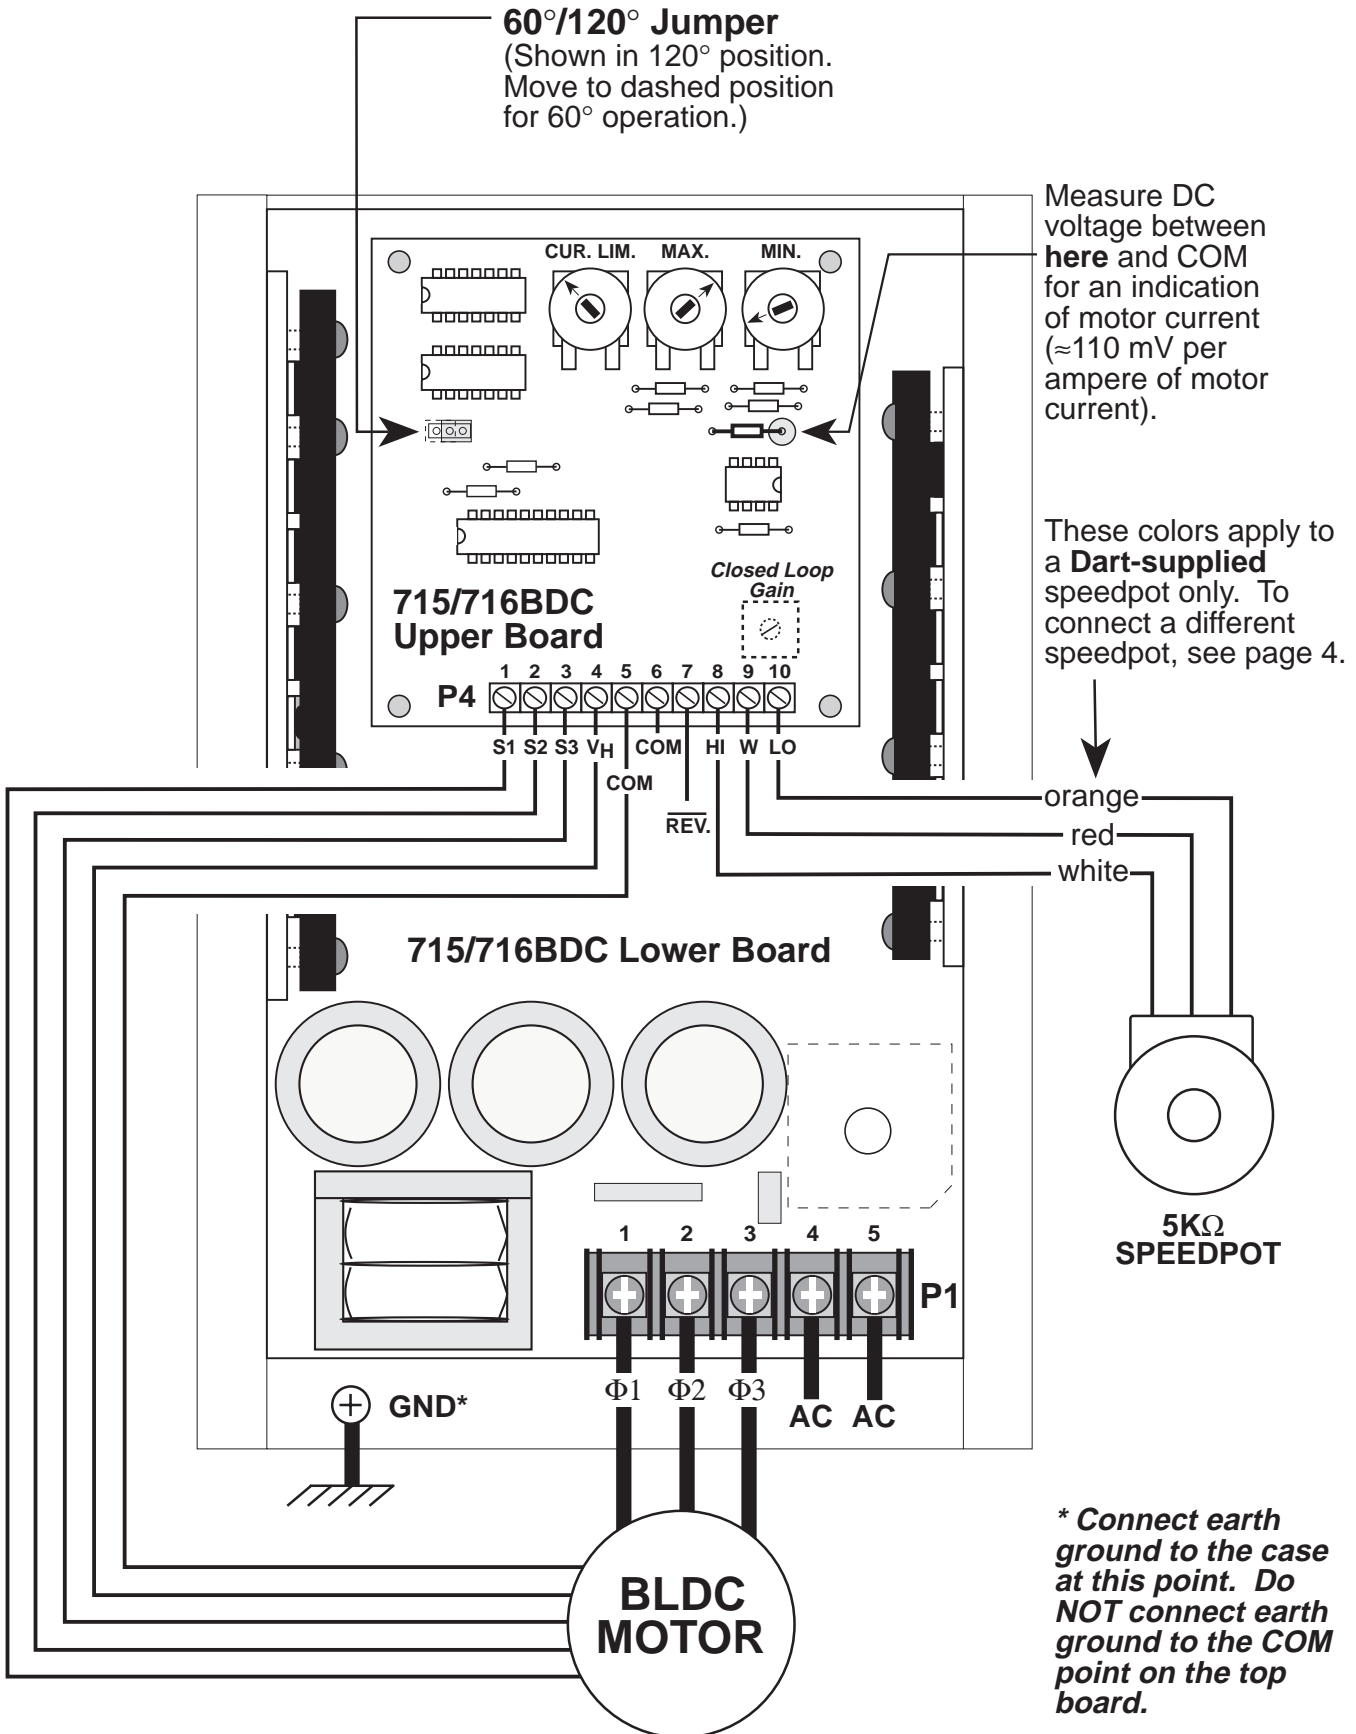

Figure 1
All BLDC motors, no matter what the hook-up status, are connected to the 715BDC control as shown in Figure 1 (page 5).
There is a jumper on the **upper board** to switch between 60° and 120° hall sensor spacings. This jumper is shown in the upper portion of Figure 1 (page 5). Place this jumper in the left-most (dashed) position for 60° operation, or in the right-most (solid) position for 120° operation.
Once the spacing is determined, return to the section "60°/120° Sensor Spacing" (page 4) and make sure the control is set correctly. Return to Figure 1 and connect the sensors to terminals P4-1 through P4-3. Notice that for the 60 degree spacing there is a specific sensor line that leads the sequence, followed by a line lagging by 60 degrees, and a third line lagging the second by 60 degrees. It is important that the middle line in the train be connected to terminal P4-2.
After the sensors are connected, attach the sensor power line (notated by V_H in Figure 1) to terminal P4-4. The sensor common line (notated by COM in Figure 1) is connected to terminal P4-5. Now attach the three motor armature wires and test for proper hook-up.
Refer to figure 1 of this manual. Measure the DC voltage from Common (P4-6) to the point indicated on the R29 resistor located on the upper board. Divide that voltage by 110 mV to obtain the actual motor current in amperes.
Controls designated 716BDC are closed loop devices. These controls use additional circuits to transform the sensor signals into tachometer information, and accurately control the speed of the motor. Hook-up procedures are identical to the open loop series, however, there is an extra trimpot labeled **Closed Loop Gain** (Shown in Figure 1 on page 5). This allows the flexibility to properly control motors in a wide spectrum of speeds.
- 1) Set the Maximum Speed (MAX.) trimpot to the position shown in Figure 1 on page 5.
- 3) Advance your speedpot to the fully clockwise (CW) position. Your motor should now be spinning at its maximum speed.*